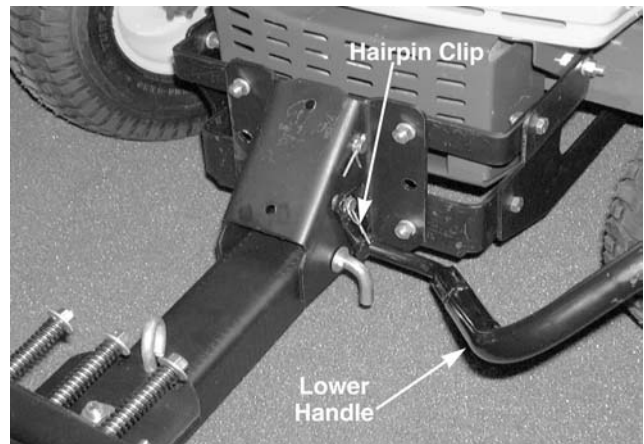

Figure 12-77.
16. Insert the end of the lower lift handle through the slot in the pivot support bracket and the hole in the push bar channel. The hole in the link on the end of the handle goes over the long pin on the lift link. See Figure 12-77.
17. Secure the lower handle with a hairpin clip. See Figure 12-77.